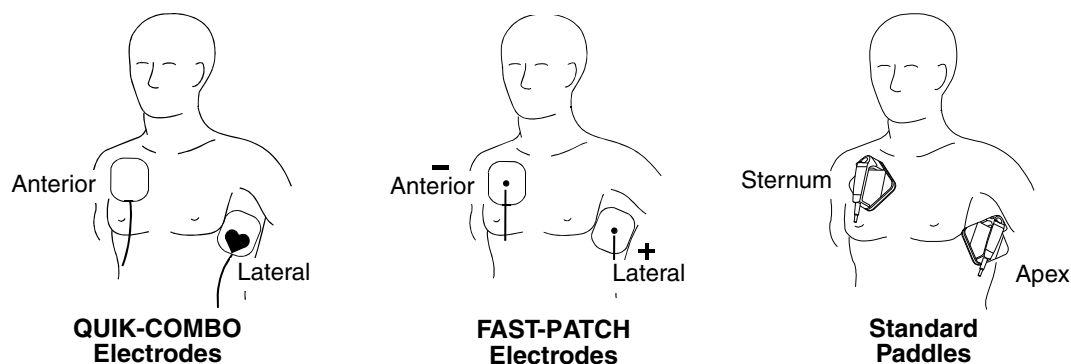

Figure 4-1 Anterior-lateral Placement
- 1 Place either the ♥ or + therapy electrode, or apex paddle lateral to the patient's left nipple in the midaxillary line, with the center of the electrode in the midaxillary line, if possible. Refer to Figure 4-1.
- 2 Place the other therapy electrode or sternum paddle on the patient's upper right torso, lateral to the sternum, and below the clavicle as shown in Figure 4-1.